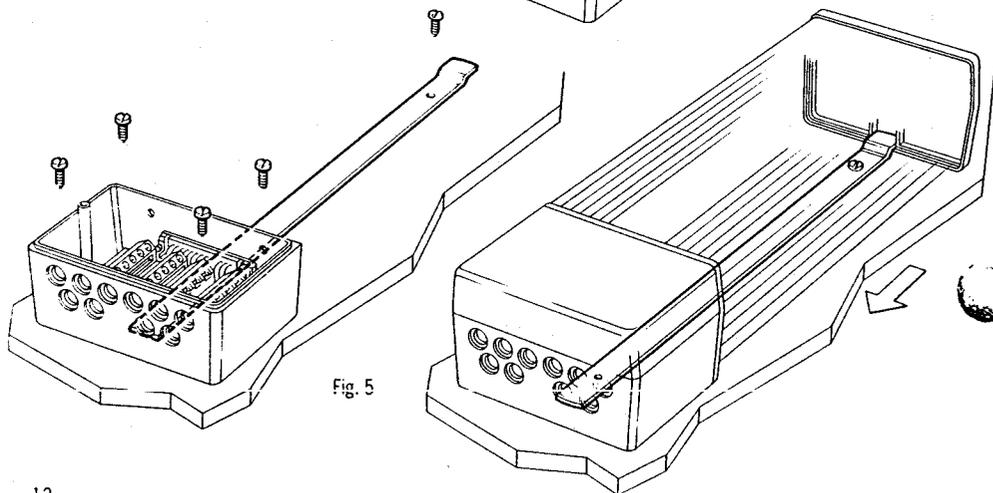

Fig. 5
- Position terminal box and mounting spine in correct location, mark off and pilot drill for the 5 self tapping screws supplied (Fig. 5).